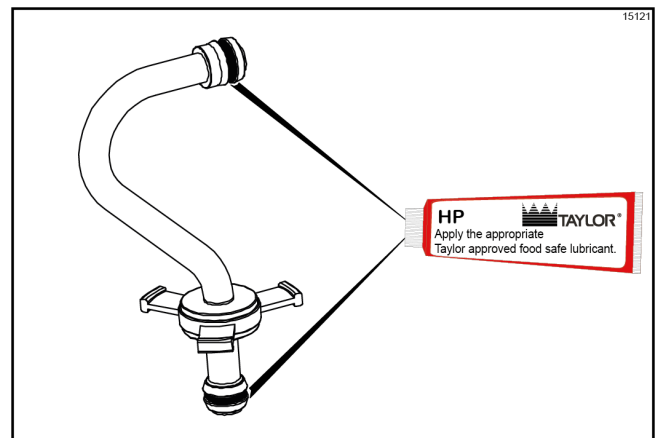

Figure-153
11. Install one red O-ring on each end of the mix feed tube and thoroughly lubricate. (See Figure-153.)